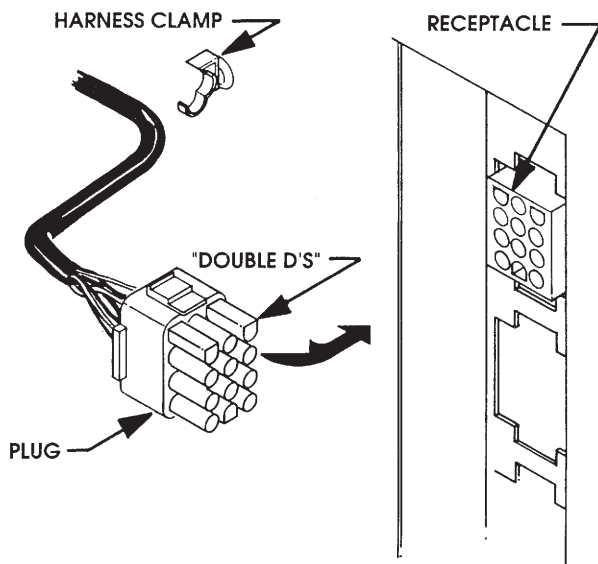

Figure 5
2. Disengage the tray harness from its snap open harness clamp on the right hand sidewall. See Figure 5.
3. Disconnect the tray plug from its receptacle on the right hand sidewall. See Figure 5.
For proper plug to receptacle orientation the two flat sided connectors (Double "D's") on the plug should be "up". See Figure 5.